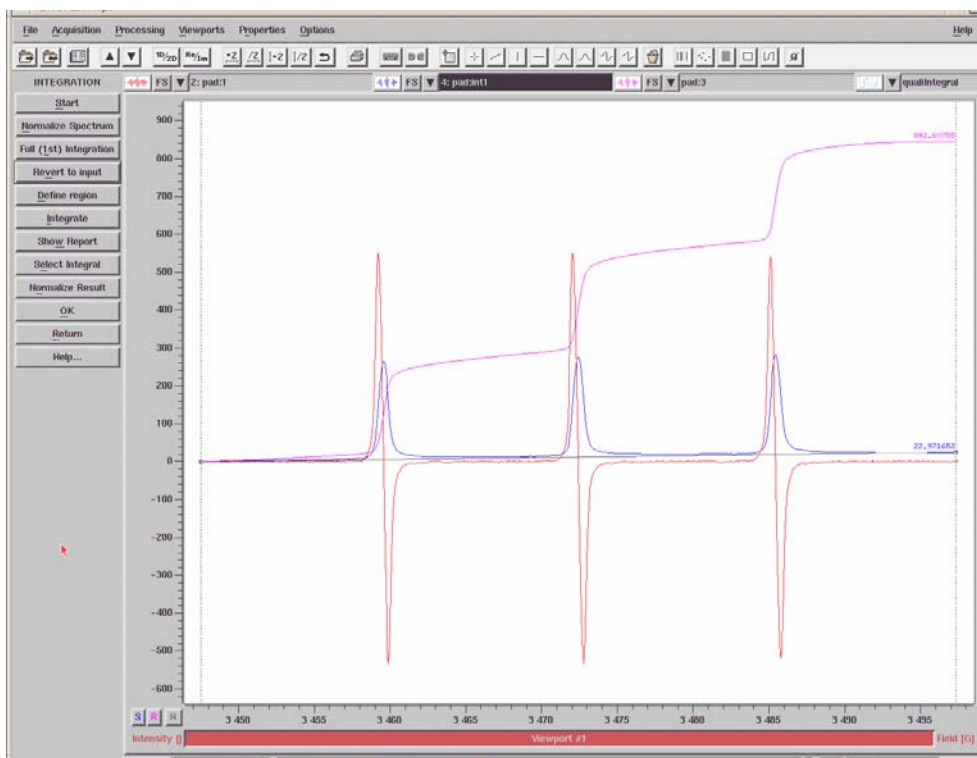

Figure 6-40 The double integral of the selected region.
6. **Double integrate the spectrum.** You can double integrate the spectrum by applying the same process to the integral you get from the above steps. To display the original spectrum, the first integral, and the double integral in the same viewport, first we need to transfer the first integral to the **Secondary** dataset. Click the **Secondary Dataset List** and select **<Result>**. Click on the dataset title label of the **Secondary** dataset to activate the **Secondary** dataset. All the operations will apply to the **Secondary** dataset now. (See Figure 6-40.)